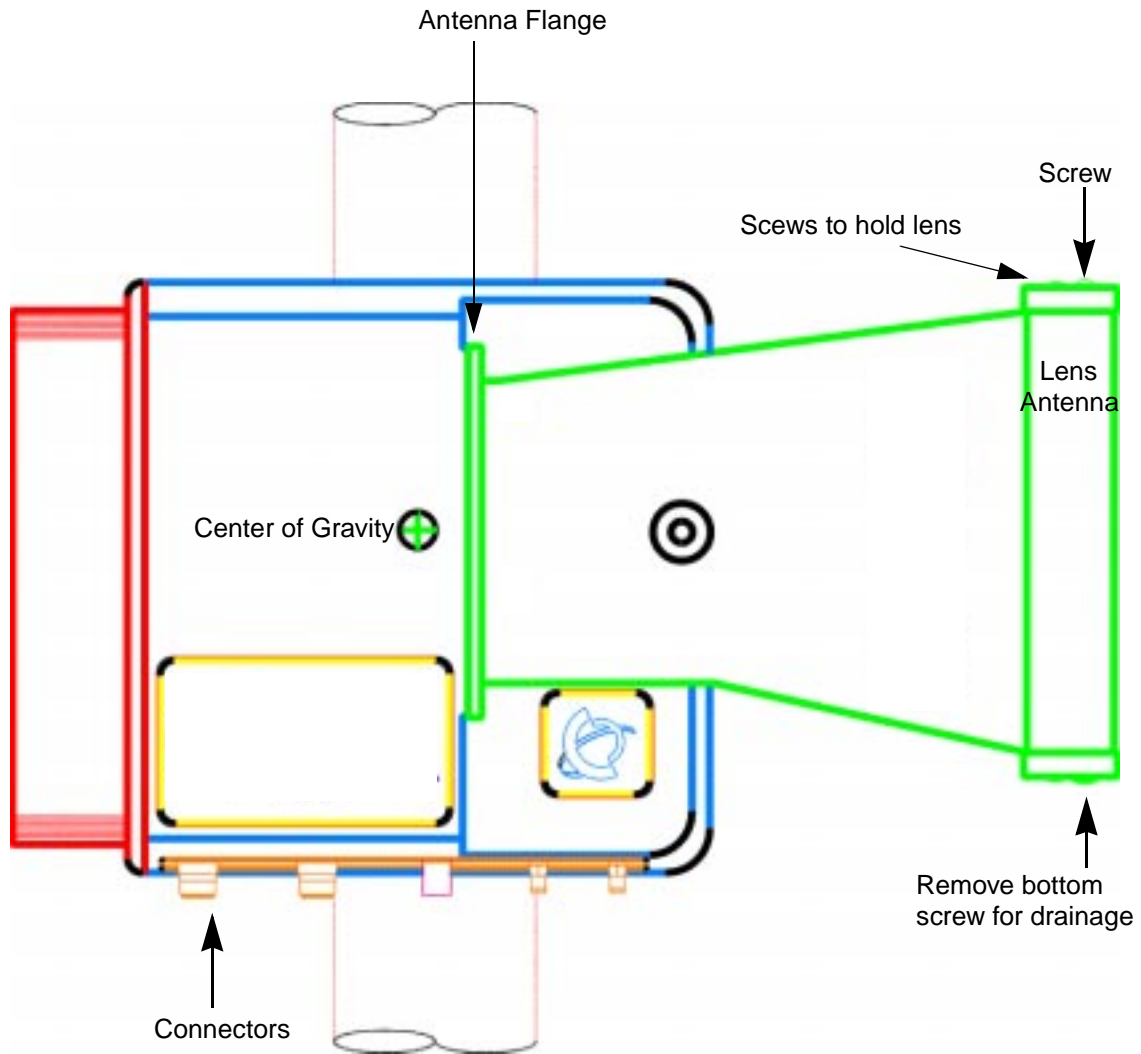

Figure 1-11
2. Mount the BTR 28 GHz to a stable pole using the supplied mounting brackets. The mounting brackets accommodate poles with outside diameters from 2.5" to 4.5". See Figures 1-11, 1-12, 1-15, 1-16, and 1-21.
5. Install the BTR 28 GHz so that the fin array (heat sink) is positioned away from external barriers to allow heat dissipation through natural convection and radiation. See Figures 1-11, 1-17, 1-18, and 1-21.
8. Connect the telemetry cable from the BTR 28 GHz to the RPE 9000's telemetry connector. There is a 300 baud modem connection between the BTR 28 GHz, the RPE 9000 and the RSM 9016. See Figures 1-11 and 1-17.